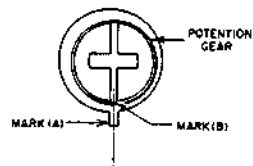

Fig. 3-15
- 1) Attach the position potential volume to the capstan holder and attach the potential gear. Attach the capstan holder to the motor block and tighten the securing screws. Align the mark on the potential gear with the groove in the motor chassis as shown in Fig. 3-15.